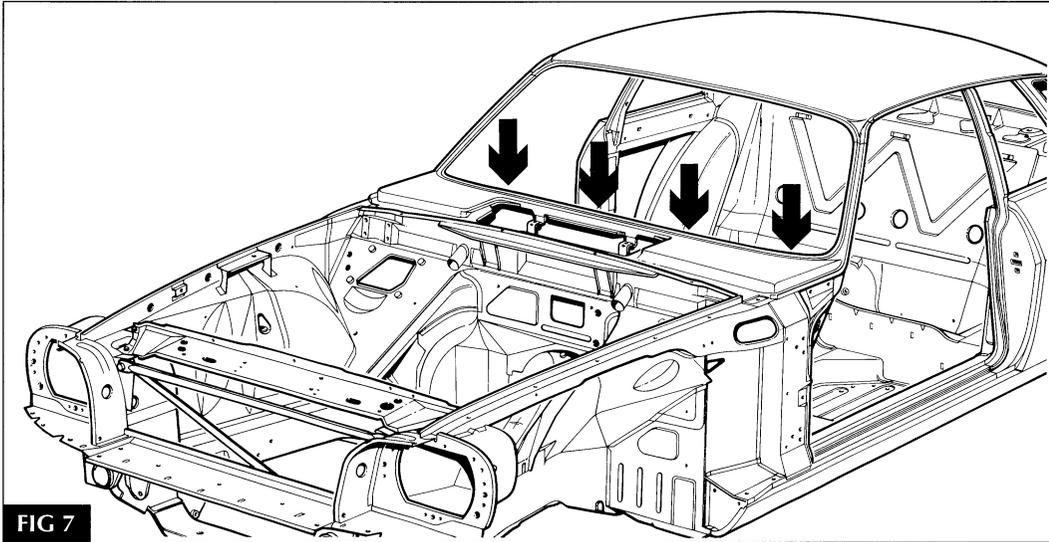
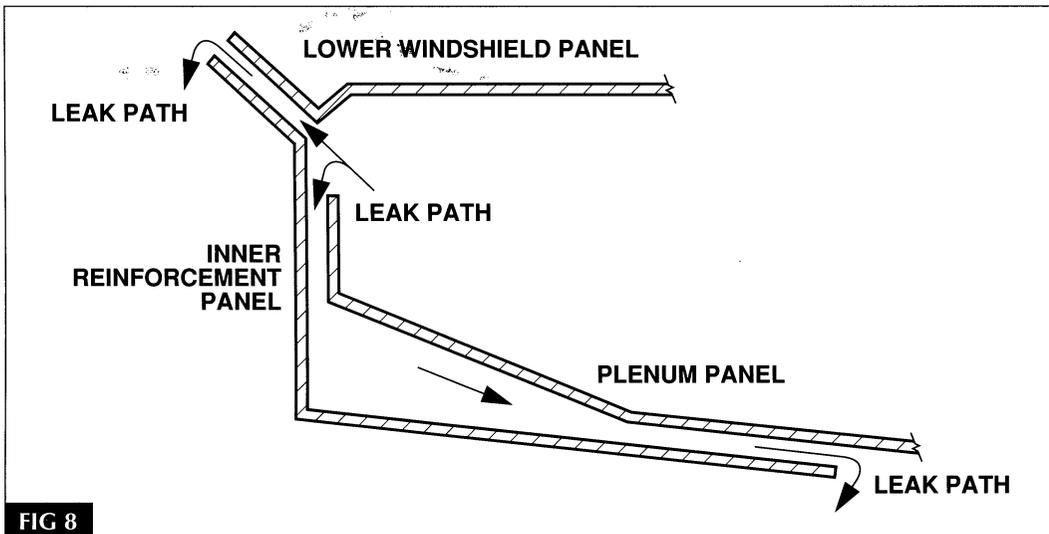

FIG 7
FIG 8
Water ingress into the car that drips in the footwells occurs from inadequate sealing of the plenum and the lower windshield flange in the areas indicated in FIG 7. Water travels from the plenum through the spot welded seams of the plenum panel and the windshield flange [FIG 8].
- Identify the seams illustrated in FIG 8. Use an inspection light in the areas on either side of the plenum grille area.